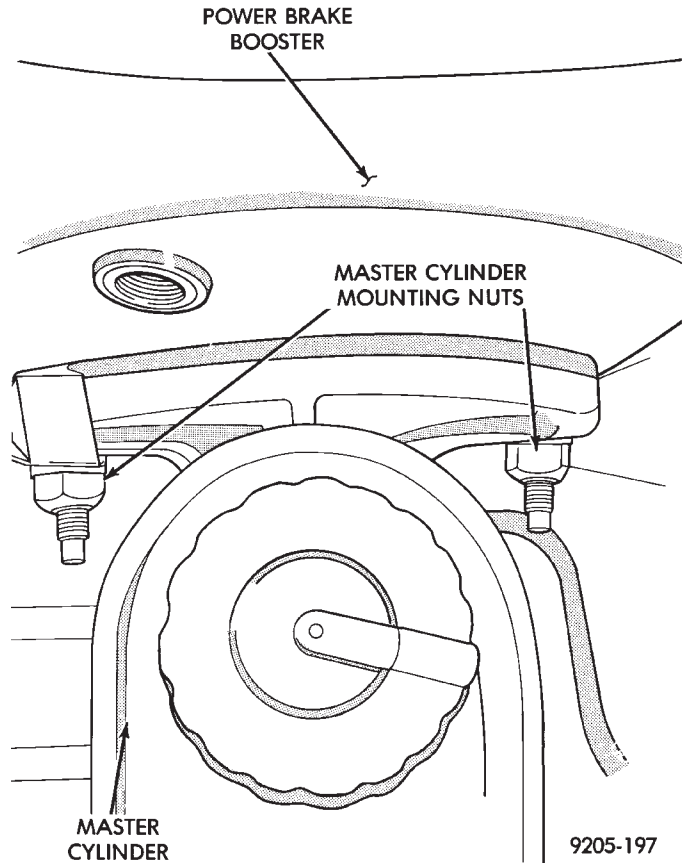
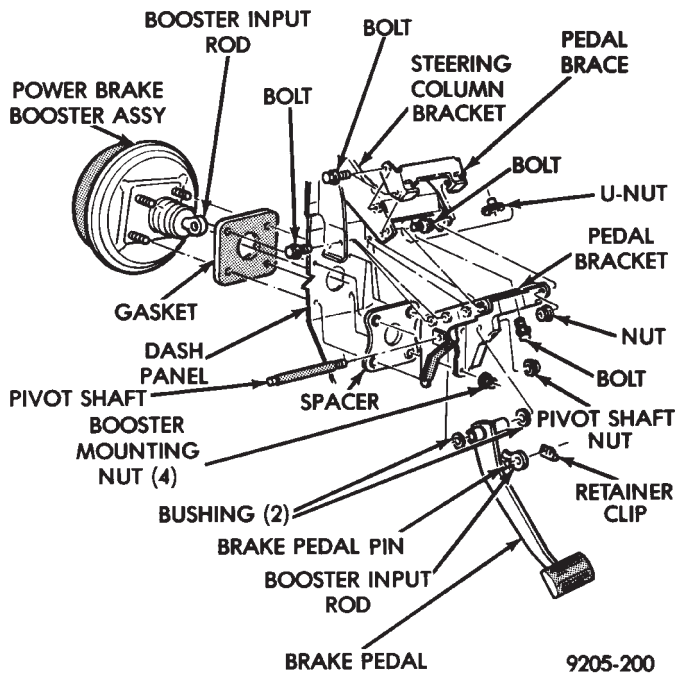

Fig. 4 Master Cylinder Mounting
Fig. 5 Power Brake Booster Mounting
(1) Remove the 2 nuts (Fig. 4) attaching master cylinder assembly to power brake unit.
(4) From under instrument panel, position a small screwdriver between the center tang on the power brake booster input rod to brake pedal pin retaining clip.
(5) Rotate screwdriver enough to allow retainer clip center tang to pass over end of brake pedal pin and pull retainer clip off pin. **Discard retainer clip it is not to be reused, replace only with a new retainer clip.**
(6) Remove the four nuts that attach the power brake booster to the vehicle dash panel. Nuts are accessible from under the dash panel in the area of the steering column and pedal bracket (Fig. 5).
- (1) Position power brake booster onto dash panel.
- (2) Install and tighten the 4 power brake booster to dash panel mounting nuts (Fig. 5) to 29 N•m (250 in. lbs.) torque.
- (3) Install steel heater water line and clutch cable bracket, if so equipped.
- (4) Carefully position master cylinder on power brake unit.
- (5) Install and tighten the 2 master cylinder to power booster mounting nuts (Fig. 4) to 29 N•m (250 in. lbs.) torque.
- (6) Connect vacuum hose onto the check valve, located on the power brake unit.
- (7) Using lubriplate, or equivalent, coat the bearing surface of pedal pin (Fig. 5).
- (8) Connect power brake booster input rod to brake pedal pin and install a **NEW** retainer clip. **Use only a new retainer clip DO NOT USE the old clip.**
- (9) Check stop light operation.